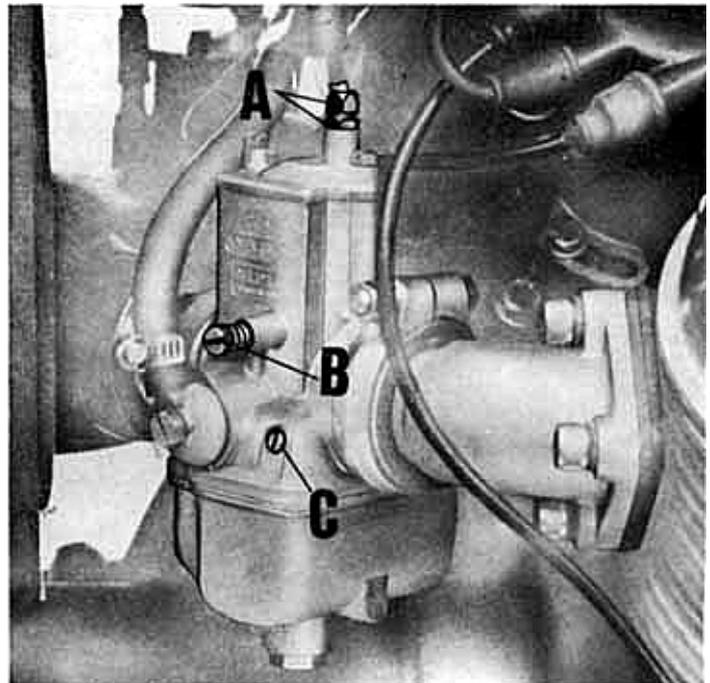

Fig. 13
2. Check synchronization of both gas valves with the filter box and the Inlet sleeve disconnected. Turn the throttle grip keeping at the same time your fingers on the carburetor slides to feel if both valves open by the same amount and simultaneously. Should one valve open before the other, this can be corrected by setting screw «A» (fig. 13) in the position where by turning the throttle both valves open simultaneously.
3. Adjust the idling speed by acting on screw «C» in (fig. 13). Screwing this in reduces the fuel flow and vicaversa increase it. To adjust, tighten and then turn screw out 1 1/2 turns for the L/H carburetor and 1 3/4 to 2 turns for the R/H carburetor.
With the engine running at about 1000-1200 r.p.m., disconnect one of the leads and turn screw «C» (fig. 13) of the opposite carburetor in or out to the position which will give the best idling speed i.e. when the revs are slightly increasing.
4. Disconnect the R/H cylinder plug lead and after starting the engine, ensure that the engine stops after firing 4 or 5 times. If it dies out sooner or later, it is necessary to adjust idling screw. «B» (fig. 13) setting it a the point where the engine will stop after it has fired 4 or 5 times.